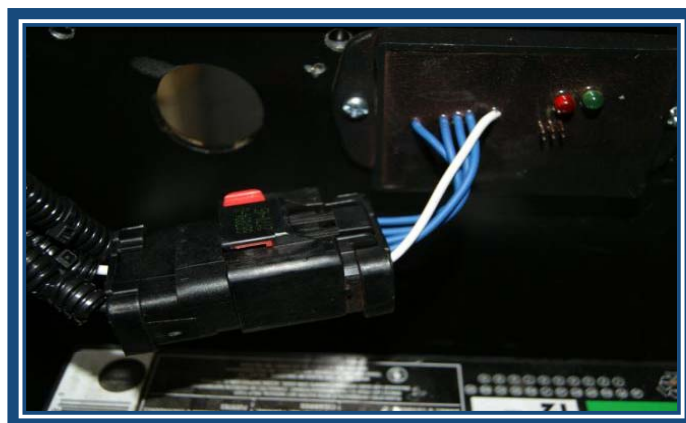

Figure 30
**Step 29:** The system is now ready to test. Check the aux pin powered operation by connecting a tractor to the trailer via the 7-way receptacle, turn the key on and check operation of Trail Charger. (No single or dual pole should be connected.) The Trail Charger's green LED light should be illuminated (See Figure 29). Measure the liftgate battery voltage, should be near 14.0 volts. The red and green LED light (See Figure 30) should be illuminated on the module. Check the brake lockout function by verifying that the green LED on the Trail Charger flashes slowly when the brakes are applied. When the brakes are released, the LED should go back to solid.
**Step 32:** Check the single/dual pole powered operation by connecting a tractor via a single or dual pole stinger cord. The Trail Charger's green LED light (See Figure 30) should be illuminated. The green LED light (See Figure 32) should be illuminated on the module.